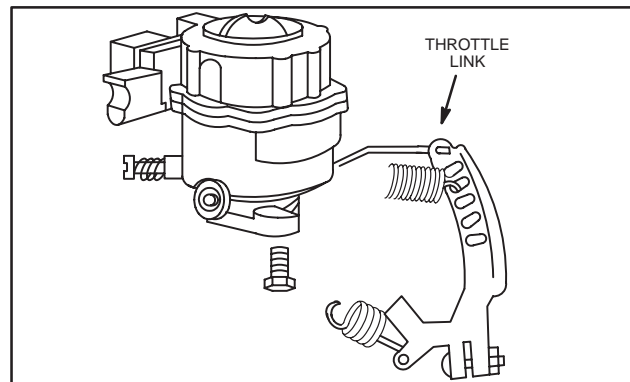

Fig. 12 – Disconnect Throttle Link
7. Disconnect throttle link from governor lever, Then from carburetor, Fig. 12.